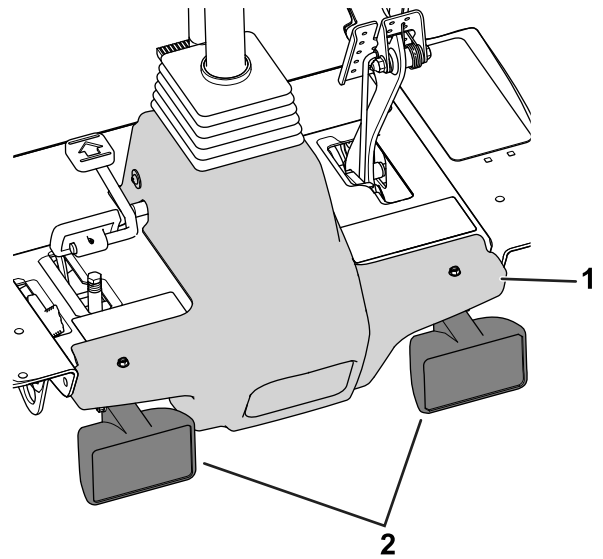

Figure 1
- Unplug the shroud headlight connectors and remove the fasteners that secure the platform shroud to the machine frame (Figure 1).